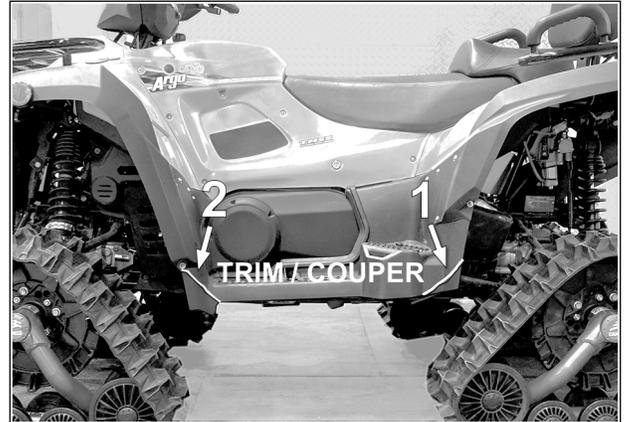

Fig. 19
1. To prevent any possible contact between the undercarriages and the foot guards, the outer corners of the foot guards should be trimmed. The modifications will help to avoid damages to the vehicle and to the track systems. Refer to Fig. 19